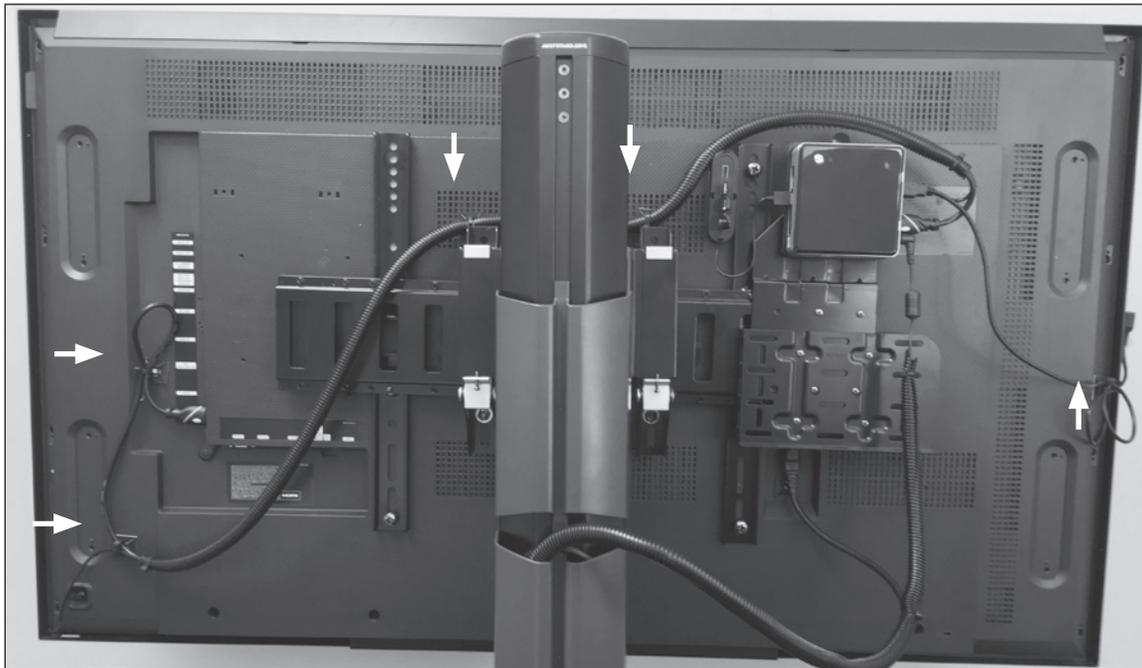

Figure 12: Mounting Bases Attachment Locations for 55" Monitor (example only)
4. Remove the protective covers from five mounting bases and attach the bases to the back of the Display Monitor. See Figure 12 for suggested attachment locations. The number of mounting bases used and the attachment position will vary depending on the Display Monitor size.